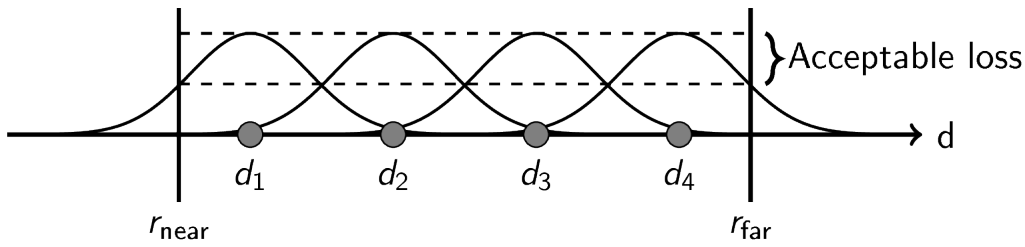

Figure 13: A sketch of setting up the measurement range for efficient coverage of a given area.
- The profile: If steps are too long, reflecting objects may fall between points, creating “blind spots” in the range. See Figure 13 for an example.
- From here, the **start point** and **number of points** can be set. Just make sure the points cover  $r_{\text{near}}$  to  $r_{\text{far}}$ . Due to the pulse length (profile), the start and end points doesn't necessarily have to pass  $r_{\text{near}}$  and  $r_{\text{far}}$ . Again, see Figure 13 for an example of this. However, keep in mind that distance measurements typically cannot be done in the very edge of the range, so you might have to extend it outside  $r_{\text{near}}$  and  $r_{\text{far}}$  anyways.